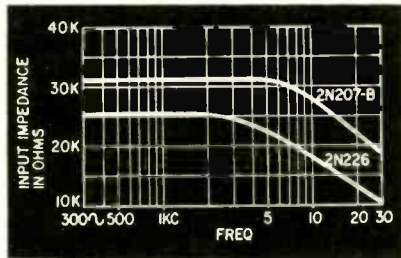

Fig. 5—Crossover input impedance vs frequency for two different transistors.
- Input Impedance** See Fig. 5
Connect the input of the crossover to the *cathode-follower* output of a preamp. This is necessary to keep the crossover from loading the preamp. The input impedance of the crossover is dependent on the beta and the cutoff frequency of the transistor used in the emitter-follower first stage. Fig. 5 shows the input impedance vs frequency of the circuit for two types of transistors. Note that even with the worst condition shown, the crossover would not excessively load a cathode follower with an output impedance of 500 to 600 ohms. Most preamp cathode-follower outputs are in this range. The output impedance of the electronic crossover